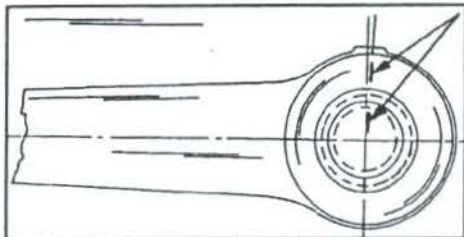

Fig. 6.2 – Drop arm and steering shaft are marked as shown and must be fitted accordingly.
- Push the steering drop arm over the steering shaft. Drop arm and steering shafts are marked. The marks must be opposite each other as shown in Fig. 6.2 after the arm has been fitted. Fit the nut and tighten to 20 – 22 kgm (144 – 158 ft.lb.).